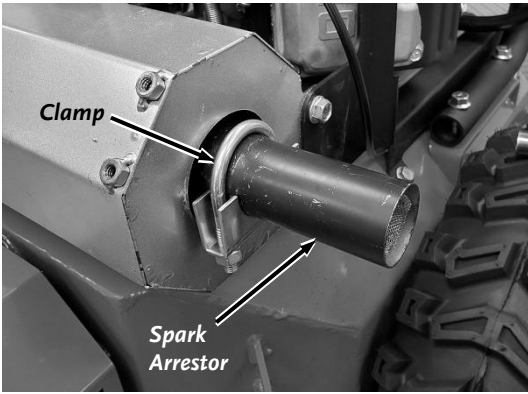

Figure 5
3. Insert the Screen into the Spark Arrestor Tube and position the larger end of the Tube fully onto the Muffler (**Figure 5**).